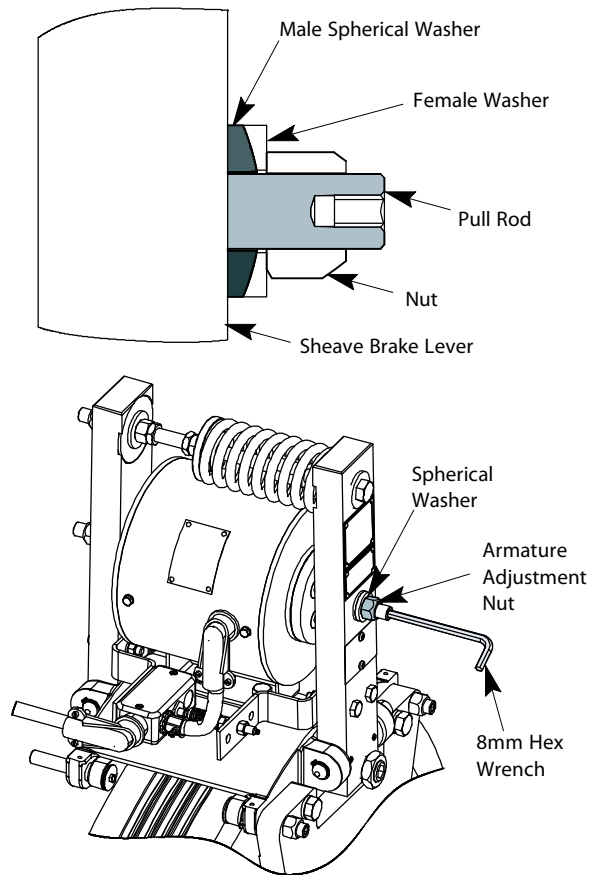

Figure 19 - Armature Adjustment
2. Tighten the armature adjustment nut until the male spherical washer just contacts the sheave brake lever. See Figure 19.
Note: If the solenoid armatures do not touch the face of the solenoid housing, loosen the armature adjustment nut until the armature just contacts the housing. See Figure 19.